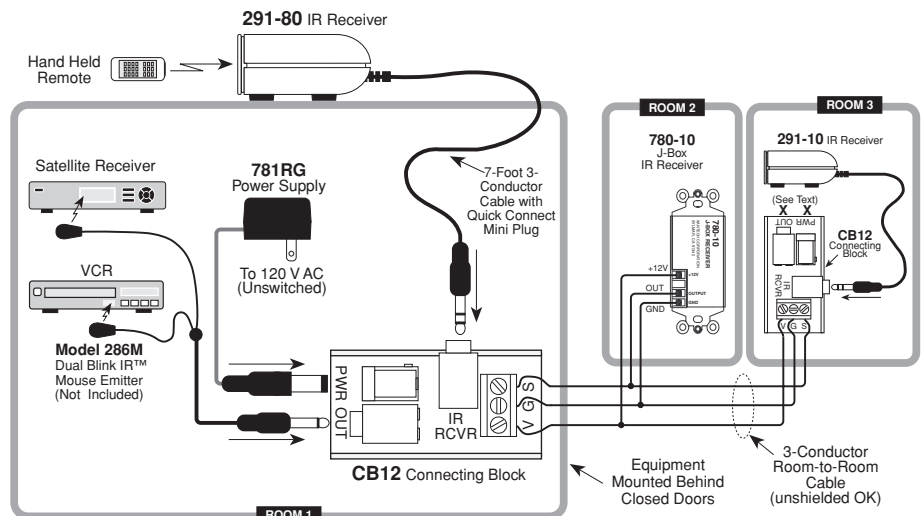

Fig. 3 Connecting IR Receivers From Other Rooms
- Make connections as shown in Fig. 3. Run a 3-conductor cable from each remote room to the VGS terminals on the CB12.
- When you use a 291-10 or a 291-80 IR Receiver in a remote room, **do not** plug in a power supply or use the "OUT" jack on that particular CB12, as shown in ROOM 3 of Fig. 3.